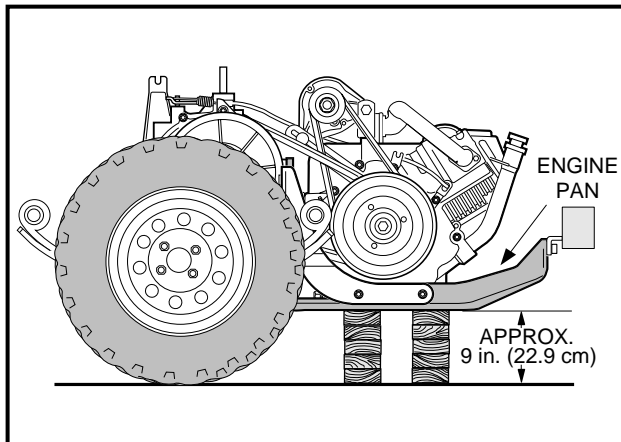

Figure 16-32 Position Powertrain
13. Place blocks under the engine pan so they will completely support the engine and keep it **level to the floor** (**Figure 16-32, Page 16-14**). See following **NOTE**.